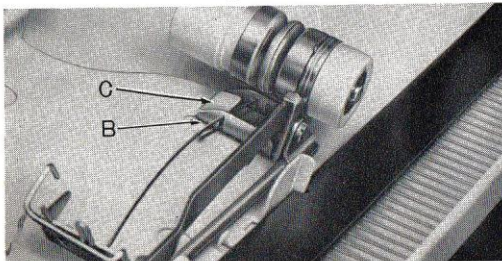

Fig. 5
b. Replace the automatic yarn tension unit as shown in Fig.5. Fit the take up spring holder (B) to the metal part (C) of the carrying case.